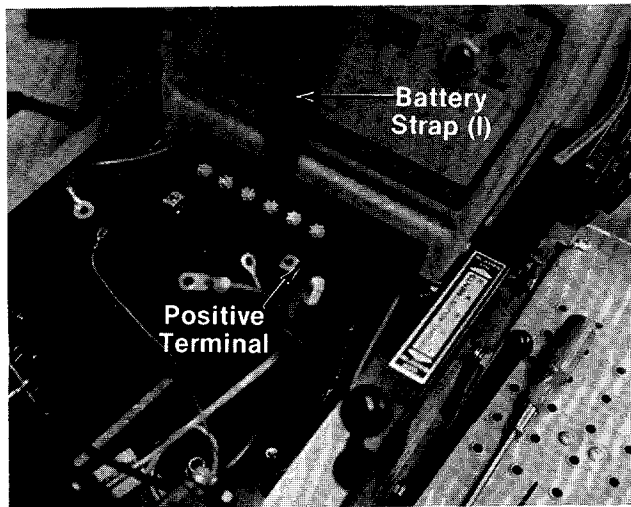

FIGURE 10.
5. Loop one end of battery strap (I) around the tab on battery box shown in figure 9. Hold the battery strap out of the way. Place the battery in the lawn tractor so that the positive terminal is facing the right side of the unit. See figure 10.